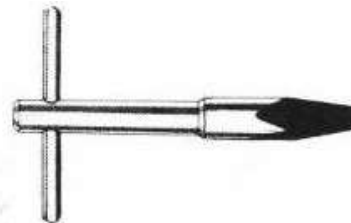

Figure 49
- (1) Disable all power to the engine to prevent propeller rotation and engine start. Disconnect ignition leads from all spark plugs.
- (2) If not already done, remove the Heli-Coil® insert from the spark plug hole as follows:
- (a) Insert the T-shaped Removing Tool P/N 64595 (Figure 49) in the spark plug hole. Press the tool down firmly for the edge of the tool to cut into the top thread of the insert.